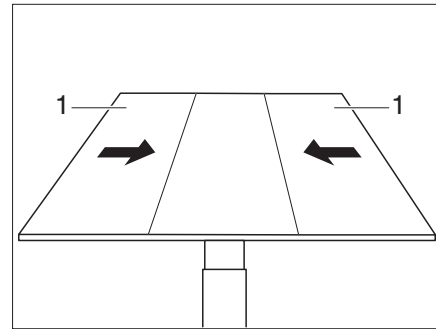

Fig. 100 Sliding the side parts against the middle part
- Push the outer parts (Fig. 100,1) of the table against the middle part.